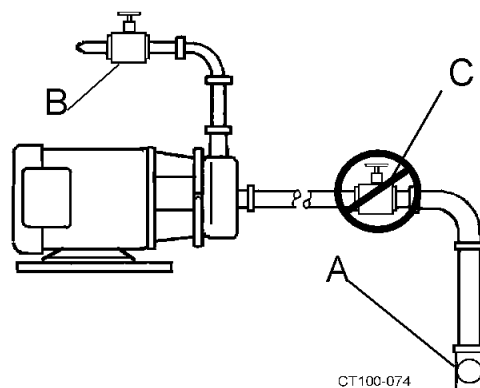

Figure 9 - Valve Piping Installation
- This pump is not self-priming. If the pump is installed above the supply liquid level, install a foot valve or other system check valve to keep the system flooded for priming (see Figure 9, item A).
- A throttling valve may be required to control the pump flow rate to prevent motor overload. Always install a throttling valve (see Figure 9, item B) in the discharge piping and at least 10 diameters from the pump outlet. **NEVER** install a throttling valve in the supply piping.